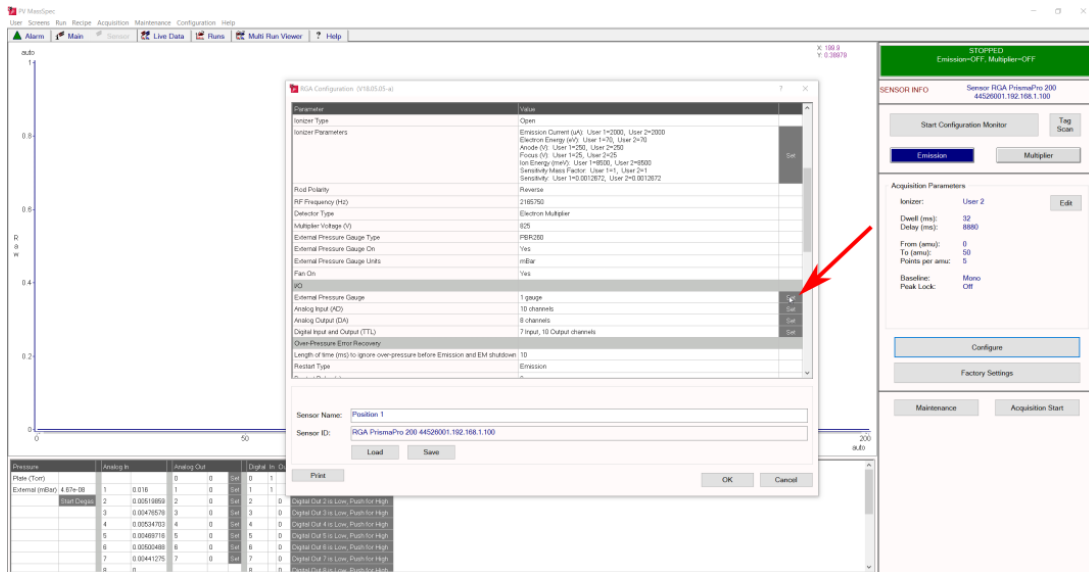
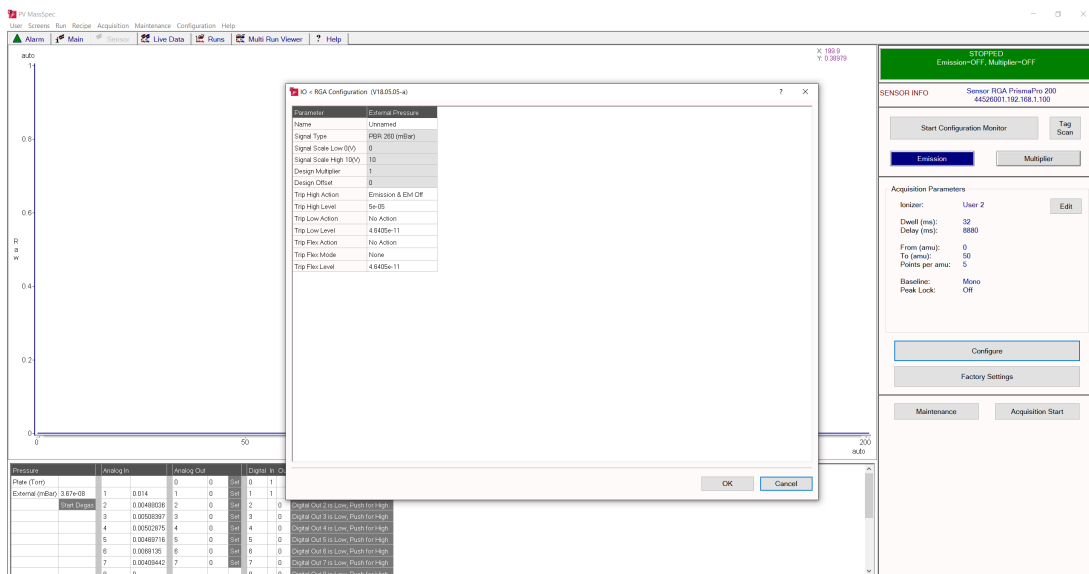

Figure 4: Enter interlock settings.
Figure 5: Interlock settings
- Click on **Set** to set up the interlock (see Figure 4). A new pane opens where the interlocks and actions at certain pressures can be set (see Figure 5).
- Set **Trip High Action** to *Emission & EM Off* and the setpoint to *5E-5* (see Figure 5)